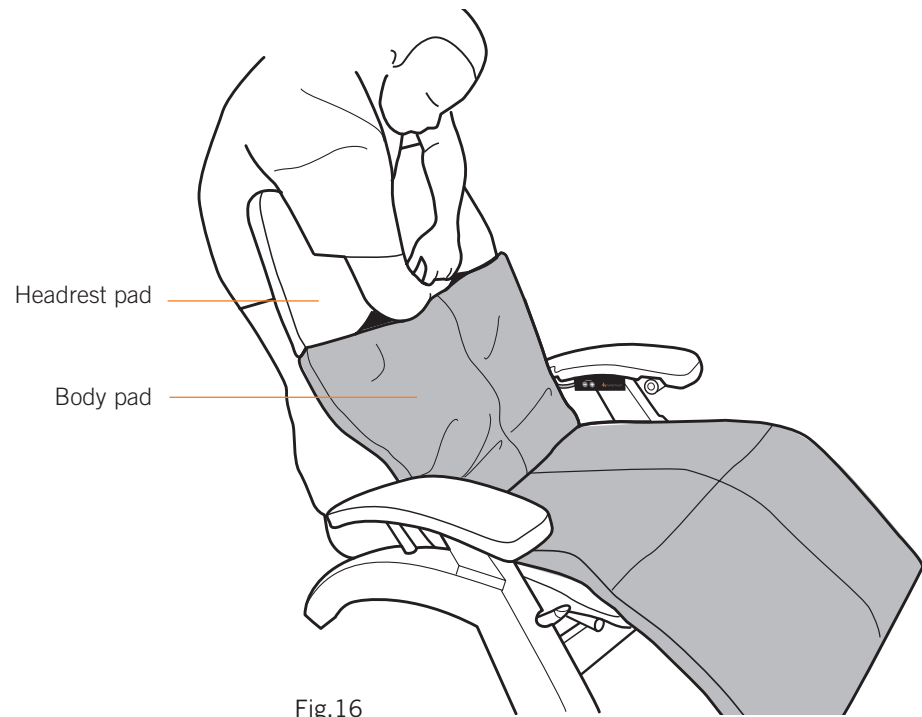

Fig.16
4. Tuck the flap on the top of the body pad up into the headrest pad and smooth the lower part of the headrest pad firmly flat to secure the hook and loop fasteners inside (Fig.16).